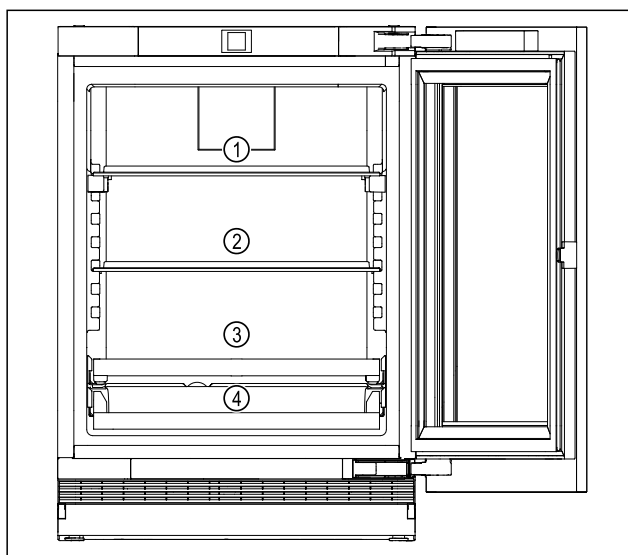

Fig. 4 Example illustration
- Top area Fig. 4 (1): Store cans, smaller bottles.
- Middle area Fig. 4 (2): Store cans, smaller bottles.
- Bottom area Fig. 4 (3): Store cans, smaller bottles.
- Beverage shelf (4): Store cans, smaller bottles.